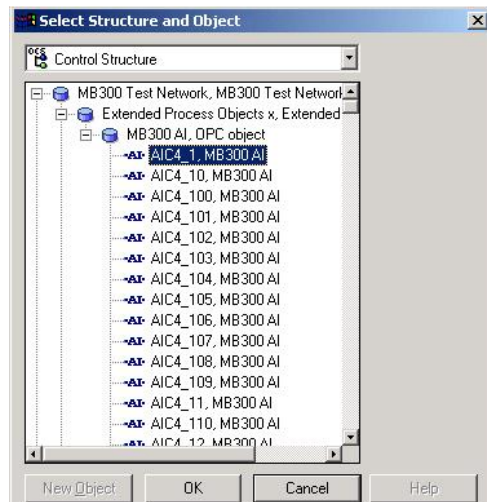

Figure 289. The Dialog where you Browse for the Object.
1. Browse for the object, or write the full path for the object in the **Object Path** area. If you choose to browse you will get a new dialog box according to Figure 289.